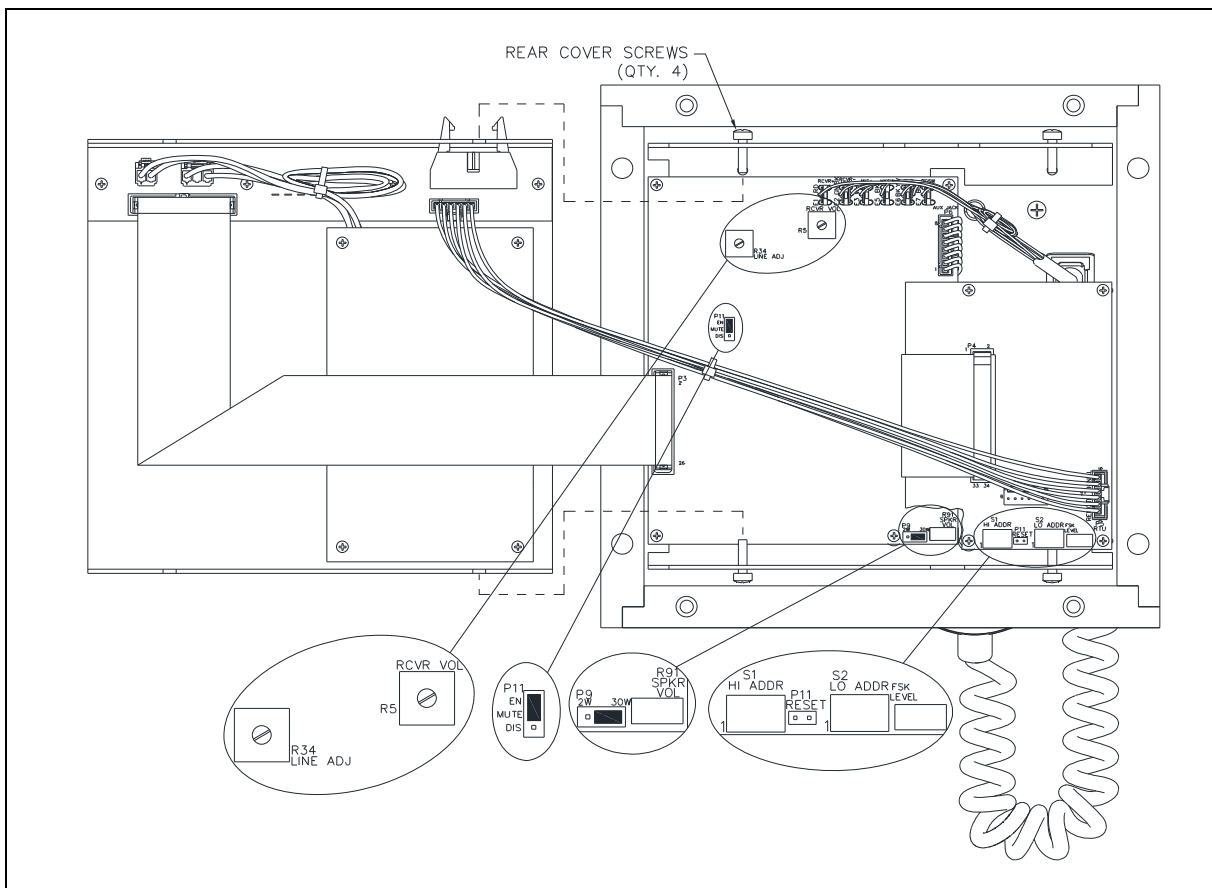

Figure 14. SmartSeries Amplifier—Open for Settings and Adjustments
GAI-Tronics recommends using a No. 10440-002 Maintenance Cable (*purchased separately*) to perform the following adjustments (see Figure 14 for component locations).
3. Turn the speaker volume potentiometer, R91, on the main PCBA, fully counterclockwise (see Figure 14).
3. Turn the speaker volume potentiometer, R91, (on the main PCBA) fully clockwise (see Figure 14).
4. During the page, turn the speaker volume potentiometer, R91, fully counterclockwise (see Figure 14).